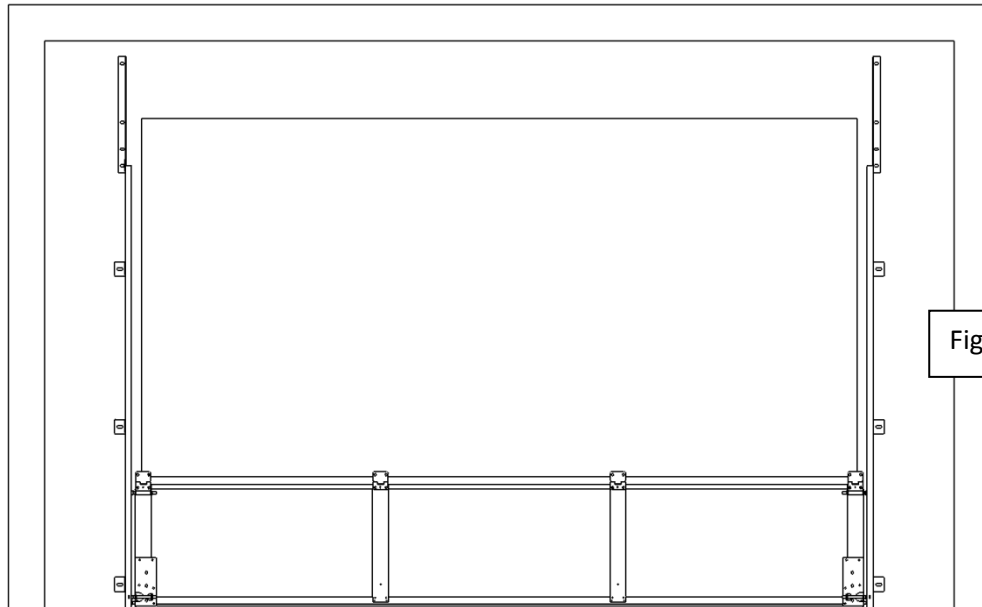

Figure 5: Panels
5. Stand panel upright behind door opening ensure it is central with 25mm over lap each side. If floor is not horizontally level it is important to use packers under panel to level. Figure 5.